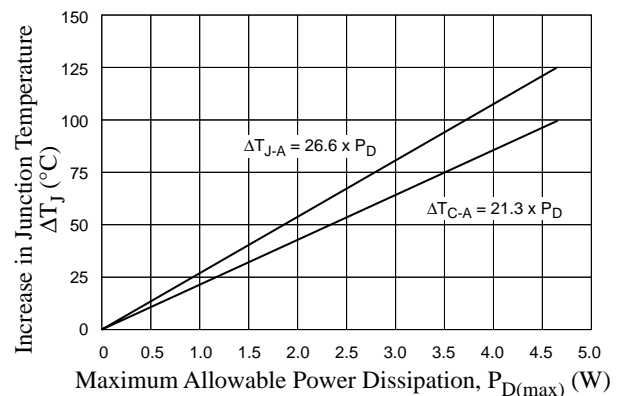

Figure 28. Temperature increase
Based on the PD calculated using the above formula, the expected increase in operating junction temperature, ΔT_J , of the IC can be estimated using figure 28. This result must be added to the worst case ambient temperature when operating, $T_A(max)$. Based on the calculation, there is no problem unless $T_A(max)$ plus ΔT_J exceeds 150°C .
Second, estimate the loss (P) and junction temperature (T_j) from the temperature rise with reference to figure 28, temperature increase graph. At this point, the device temperature rise (ΔT_{c-a}) and the junction temperature rise (T_j) are almost equivalent under the following formula: